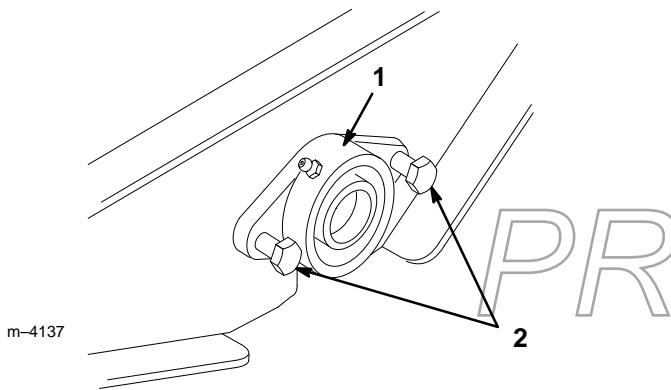

Figure 21
4. Loosen the two bolts securing the axle locking collar. (Fig. 21).